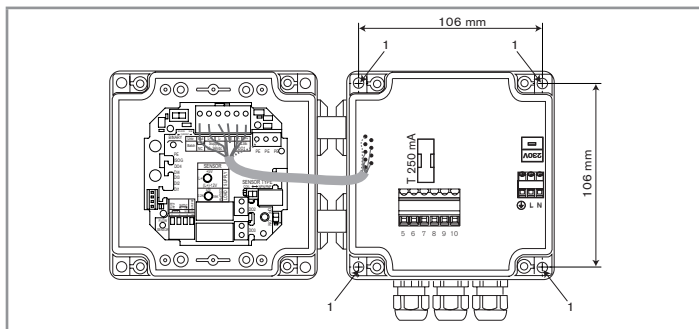

Fig. 5 : Installation of a wall-mounted version
- Secure the housing to the support respecting the dimensions indicated in Fig. 5.